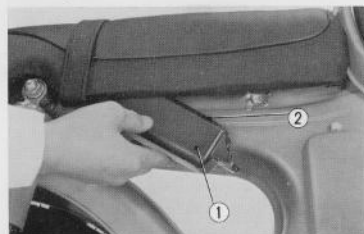

Fig. 4.54 Tool box ① Tool box ② Tool kit
2. The tool box ① for the S 90, CL 90 and CL 90 L is attached to the bottom, right side of the seat. Tighten the wing lock nut to prevent loss. (Fig. 4.54)